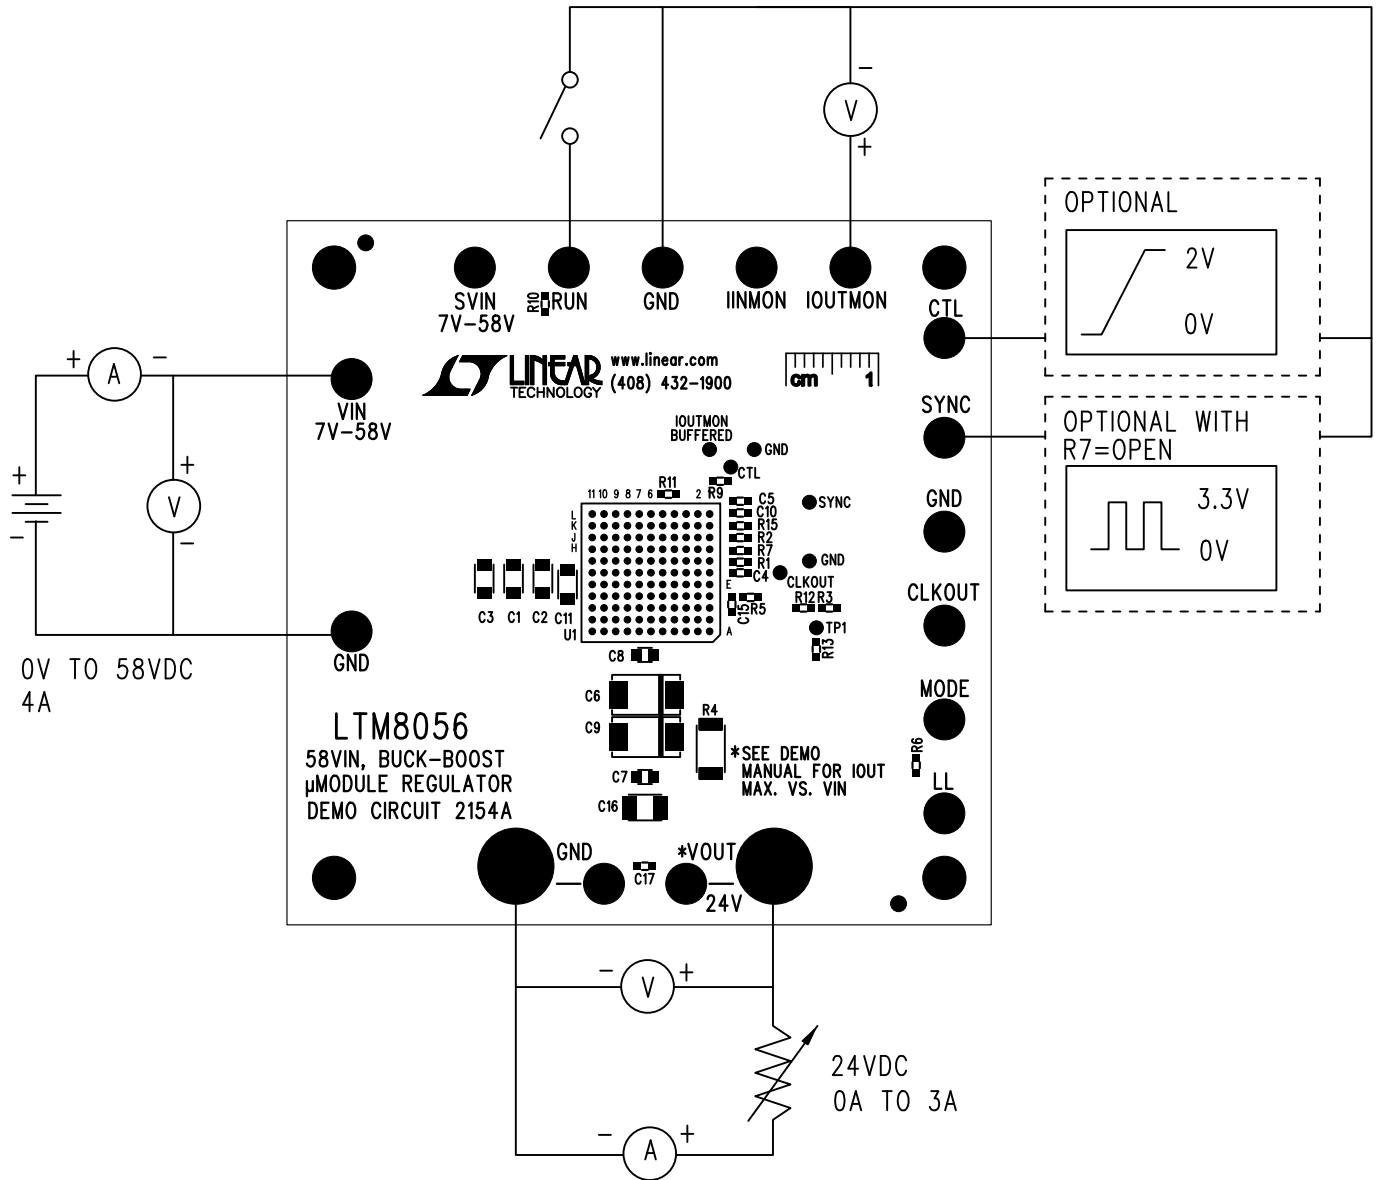
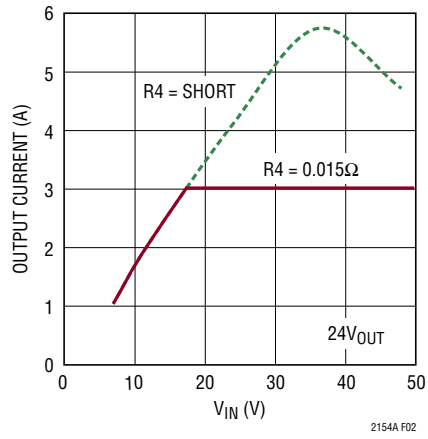

Figure 1. Proper Measurement Equipment Setup
Figure 2. Maximum Output Current vs Input Voltage for VOUT = 24V
To use DC2154A to evaluate the performance of the LTM8056, refer to Figure 1 for the proper measurement equipment setup, Figure 2 for the maximum output current versus input voltage and then follow the procedure below:
1. Connect the RUN terminal to ground with a clip-on lead. Connect the power supply (with power off), load, and meters as shown in Figure 1.